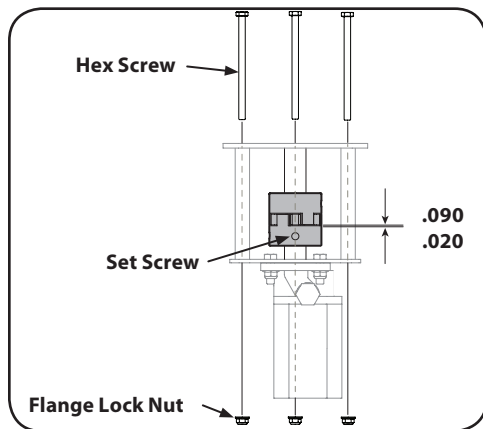

Figure 5-5
2. Remove the three flange lock nuts and hex screws that secure the pump to the coupling shield. Two flange lock nuts and hex screws are at the bottom corners and one is in the top center. See Figure 5-5
11. Set .020" to .090" of a clearance/gap between the nylon "spider" and the engine coupling half by sliding a feeler gauge between the nylon "spider" and the engine coupling half and moving the pump coupling half as needed. Install the set screw and torque to 78 in-lbs to secure the pump coupling half. See Figure 5-5.